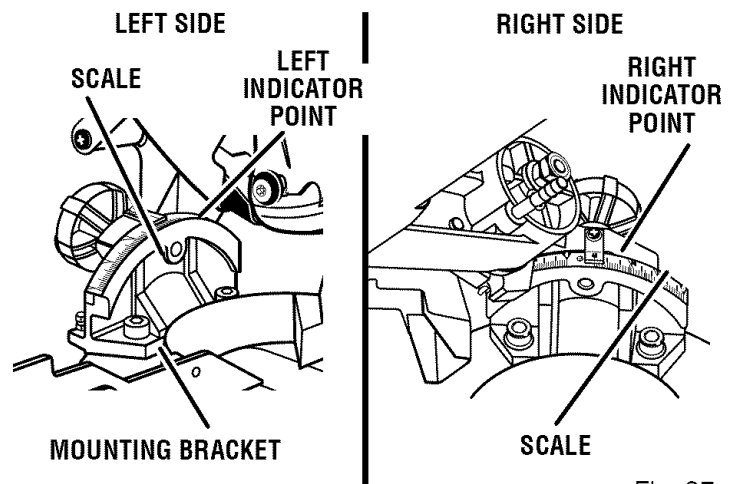

Fig. 27
*See Figures 27 and 28.*
- For your convenience there is a double scale located on the mounting bracket. *See Figure 27.* If one side becomes difficult to read as you move the saw arm to the left, simply refer to the other side. Align the indicator point for the side you choose with the desired angle.
- For your convenience there is a double scale located on the mounting bracket. See Figure 27. If one side becomes difficult to read as you move the saw arm to the left, simply refer to the other side. Align the indicator point for the side you choose with the desired angle.